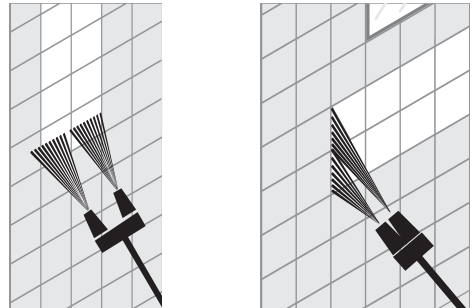

Fig. 9
4. Turn the spray gun (9) to orientate the fan jet in a better way (Fig. 9).